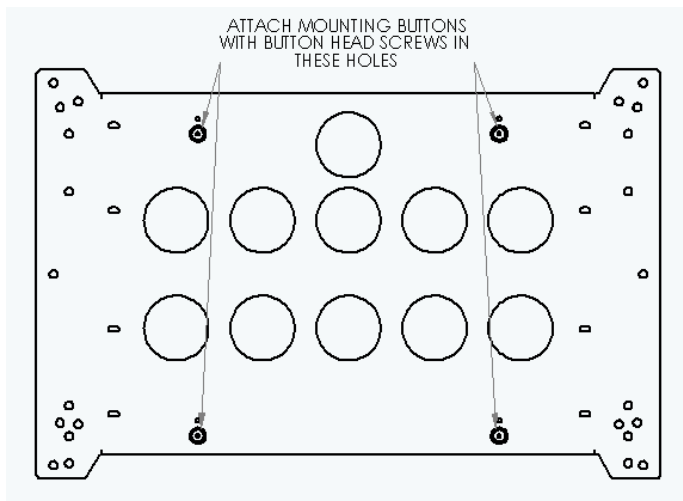
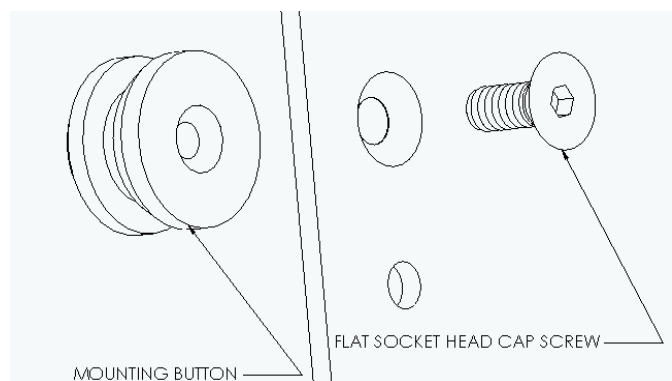

Figure 2
Figure 3
1. Using a 10-24 flat head cap screw inserted from back side of bracket, secure mounting button, with chamfered hole of mounting button (larger surface) facing bracket, to bracket (four places) (See Figure 2 & Figure 3).